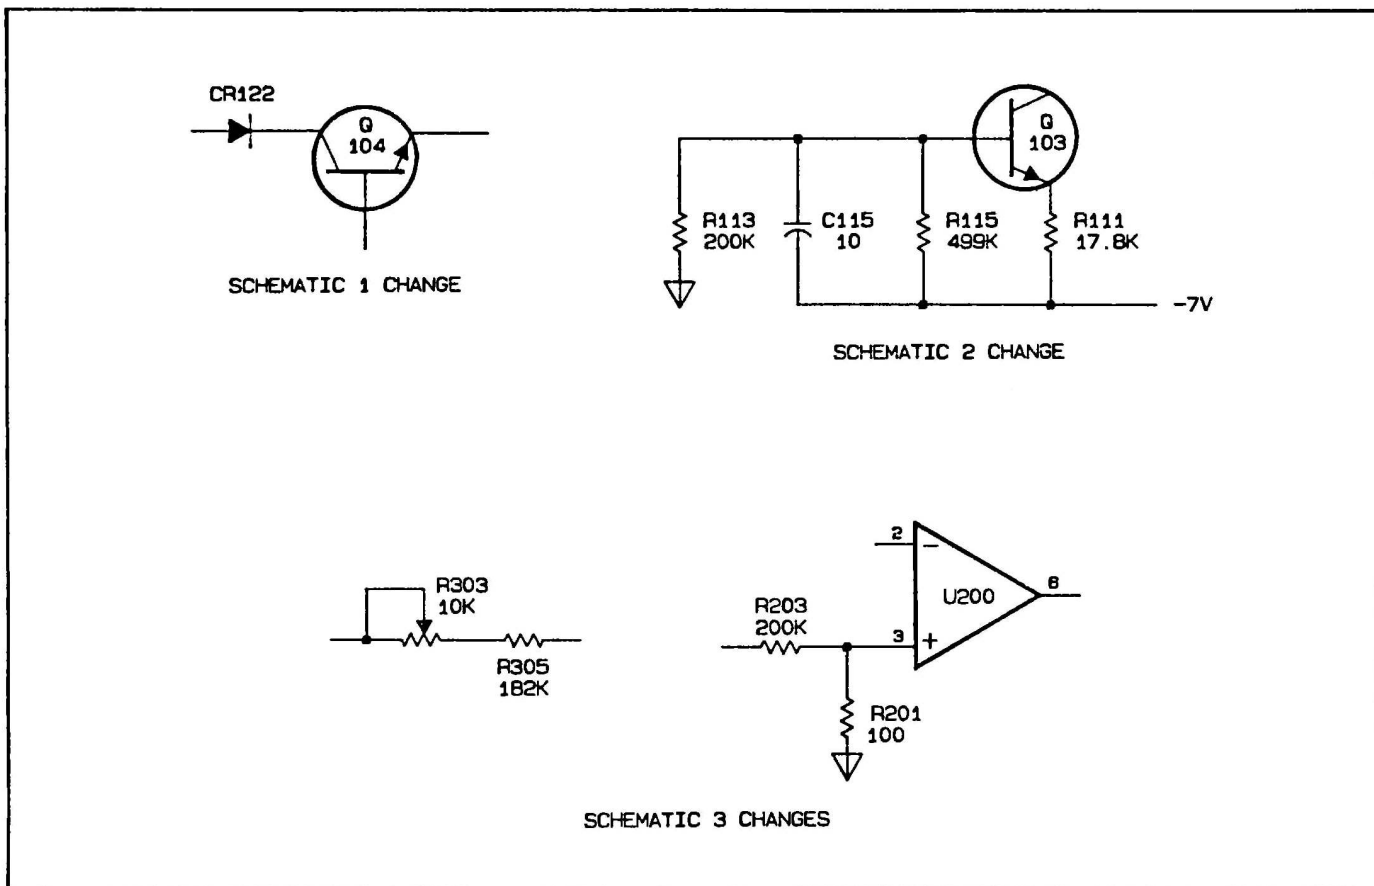

Figure 7-1. Schematics 1, 2, and 3 Changes (Change #2)
7-10. Schematic 1 Changes. Delete R159 from the collector of Q104 and connect the collector to CR122, as shown in Figure 7-1.
- Change the current source (Q103) circuitry in the input amplifier as shown in Figure 7-1.
a. Delete RT300 and R307, connected to potentiometer R303, and connect R303 to R305 (see Figure 7-1). Also change the value of R305 to 182k.
b. Delete R207 from the + input of U200, as shown in Figure 7-1.